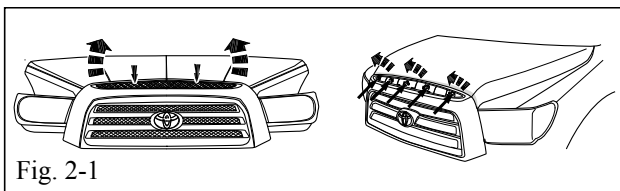

Fig. 2-1
- (a) Remove outer grill plastic insert. Remove five (5) bolts from grill. (Fig. 2-1)